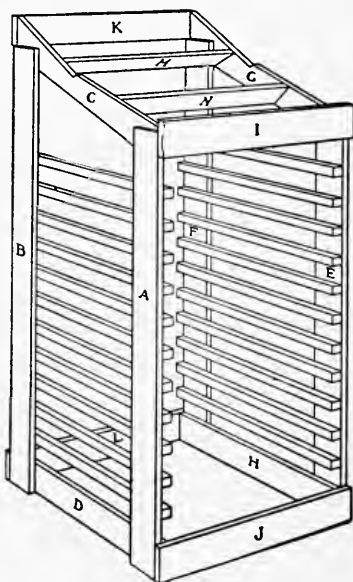

FIG. 148. — A Type-case Rack.
**A Rack for the Type-cases** until you have added several styles of type to your outfit. Then you will find a rack such as is shown in Fig. 148 one of the best methods of keeping the type away from the dust and at the same time in an accessible place.
When both frames have been made, they should be fastened together by means of the crosspieces shown in Fig. 148. Measure the width of your cases, which varies somewhat with different makes, and set the frames about half an inch farther apart than this width. Then cut the boards *I*, *J*, *K*, and *L* the correct length and nail them to the places shown upon the drawing. Strips